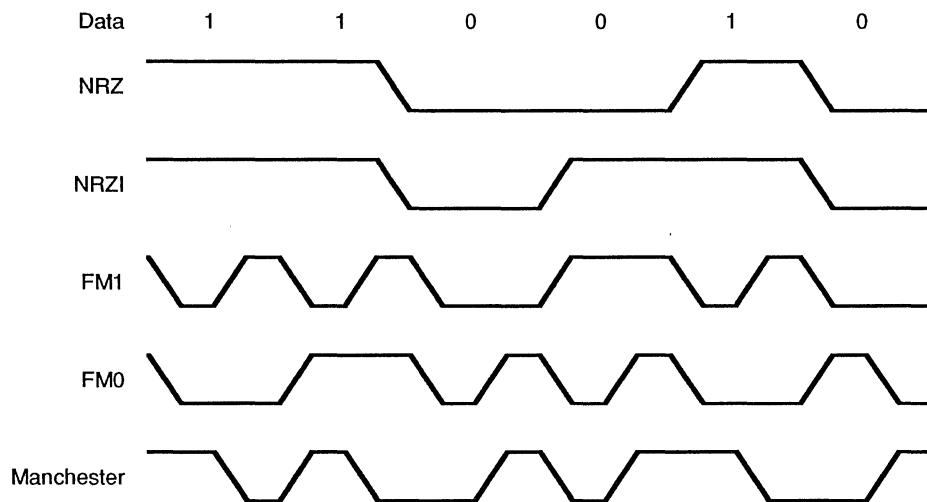

Figure 6. Data Encoding Methods
**Data Encoding.** The SCC may be programmed to encode and decode the serial data in four different ways (Figure 6). In NRZ encoding, a 1 is represented by a High level and a 0 is represented by a Low level. In NRZI encoding, a 1 is represented by no change in level and a 0 is represented by a change in level. In FM1 (more properly, bi-phase mark), a transition occurs at the beginning of every bit cell. A 1 is represented by an additional transition at the center of the bit cell and a 0 is represented by no additional transition at the center of the bit cell. In FM0 (bi-phase space), a transition occurs at the beginning of every bit cell. A 0 is represented by an additional transition at the center of the bit cell, and a 1 is represented by no additional transition at the center of the bit cell. In addition to these four methods, the SCC can be used to decode Manchester (bi-phase level) data by using the DPLL in the FM mode and programming the receiver for NRZ data. Manchester encoding always produces a transition at the center of the bit cell. If the transition is 0 to 1, the bit is a 0. If the transition is 1 to 0, the bit is a 1.